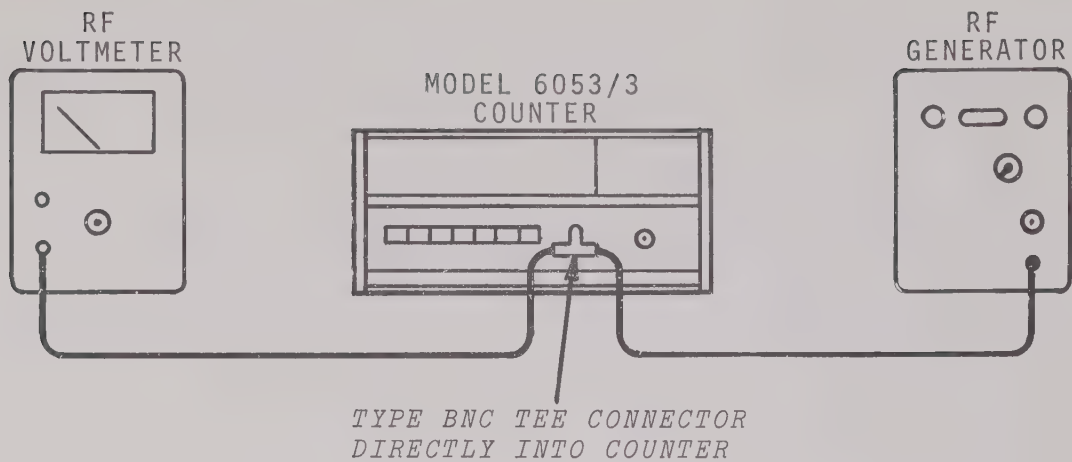

FIGURE 5.1 VOLTAGE MEASUREMENT OF RF INPUT
2. Apply 200MHz at a level of 10 millivolts. This is measured at the front panel as shown in Figure 5.1.